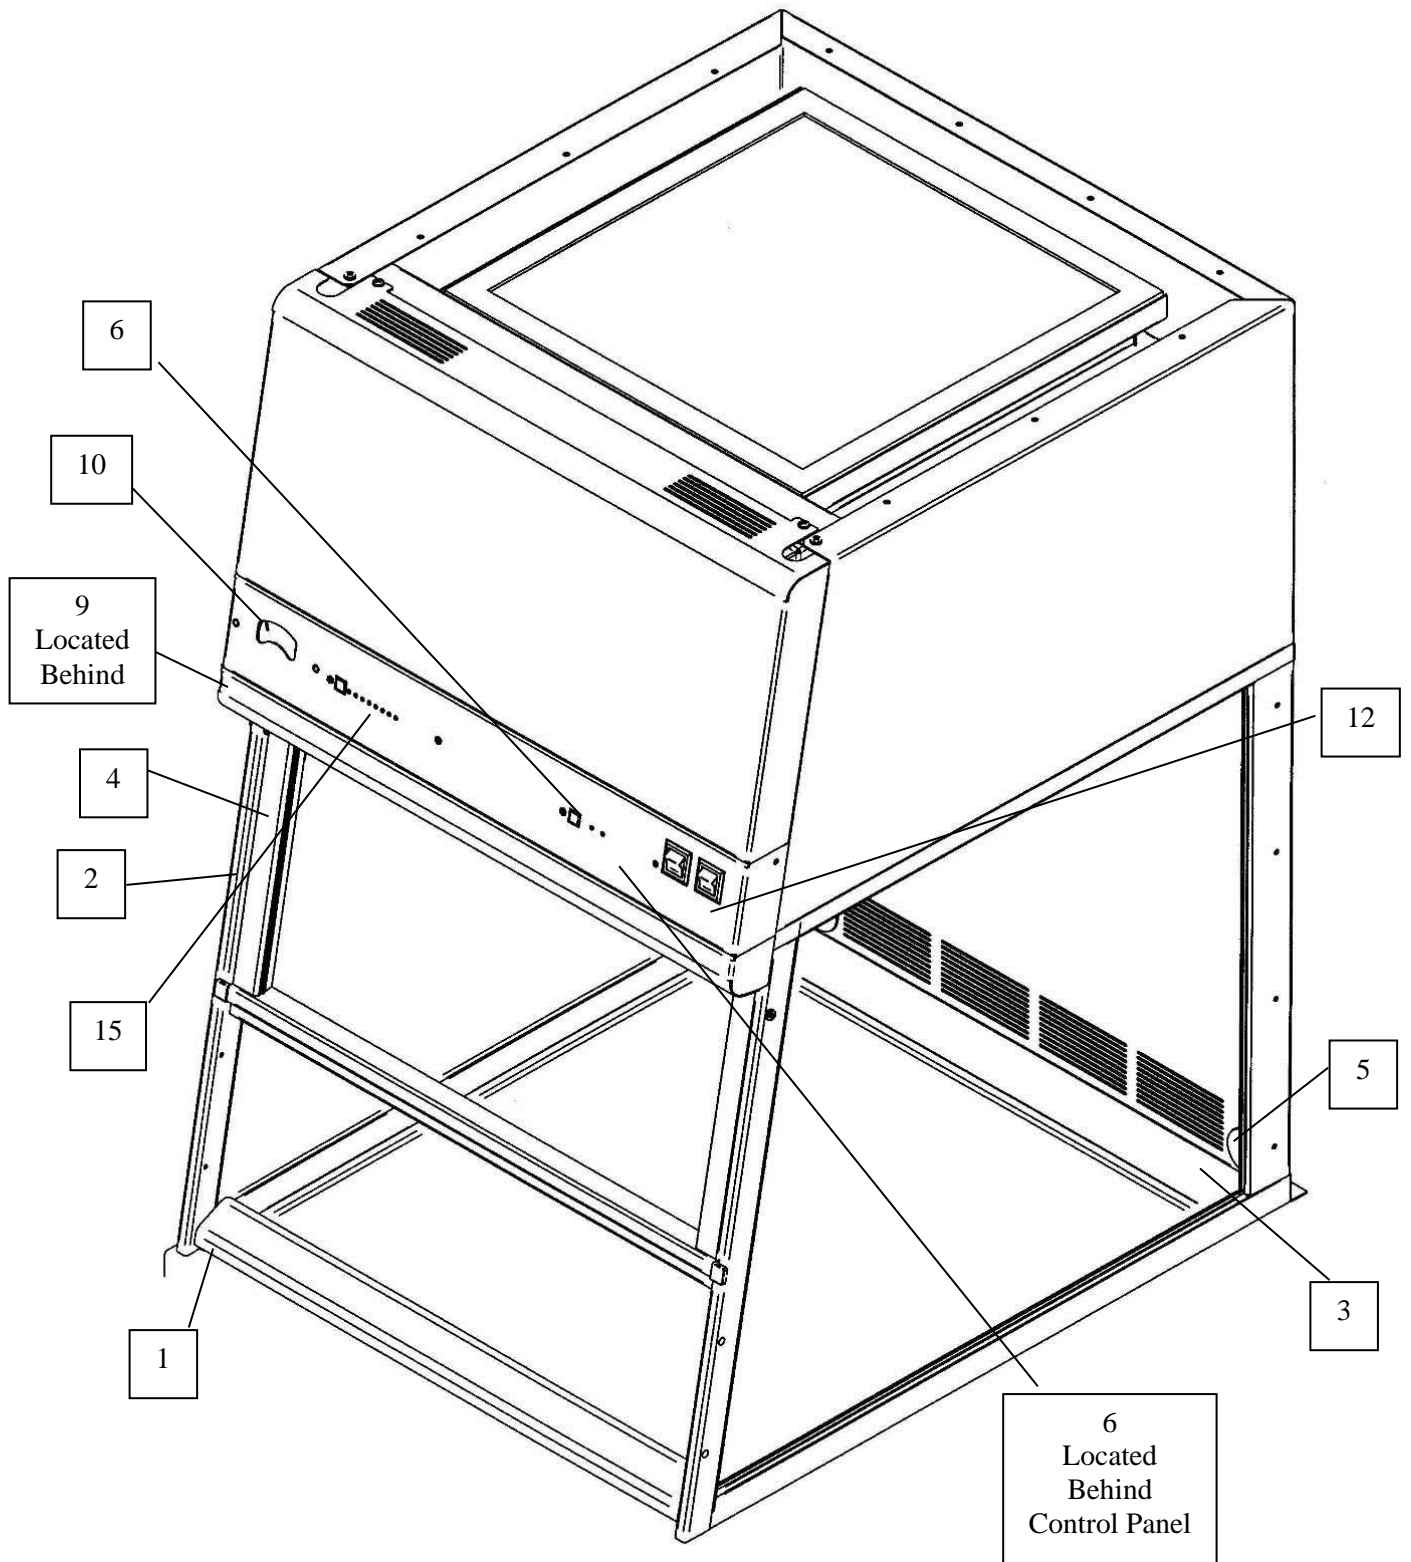

Figure 4-1
1. **Aerodynamic Lower Air Foil** allows air to sweep the work surface and promote ISO Class 5 air conditions inside the enclosure. See Figure 4-1.
2. **Ergonomic Slope** of 10 degrees provides maximum visibility and comfort, reduces glare, thereby minimizing operator fatigue. See Figure 4-1.
3. **Internal Depth of 25"** provides necessary depth to work inside the enclosure. See Figure 4-1.
4. **Safety Glass Sash with Spring-Loaded Latch** has a wiping seal and features a spring-loaded latch to secure sash open for loading and cleaning. The sash must be down for normal operation. See Figure 4-1.
5. **Utility Ports with Iris** allows electrical cords and data cords to pass through the back of enclosure without leaving a large hole. The enclosure ships with solid plugs. Iris plugs are included with the User's Manual. See Figure 4-1 and 4-2.
6. **Optional Guardian™ Airflow Monitor** continuously monitors airflow. An audio/visual alarm alerts the user to low airflow conditions. The Guardian™ Airflow Monitor is an available option on all Purifier Filtered PCR Enclosure models. See Figure 4-1 and 4-2.
8. **Speed Control** regulates the speed of the motorized impeller and is used by the certifier to validate and adjust the downflow velocity. Located behind the front panel. See Figures 4-1 and 4-2.
9. **Fluorescent Lamp** is located above the work area, out of contact with the clean air. A safety glass window beneath the lamp distributes the light evenly across the work surface. See Figure 4-1.
10. **Filter Pressure Gauge** indicates the pressure across the HEPA filter to help predict HEPA filter loading. See Figure 4-1.
11. **Filter Clamping Bolt** evenly seals the HEPA filter to the frame of the enclosure. See Figure 4-1 and 4-2.
12. **Control Panel.** The control panel, which is located above the sash, contains the filter pressure gauge, control switches and the electronics. See Figure 4-1.